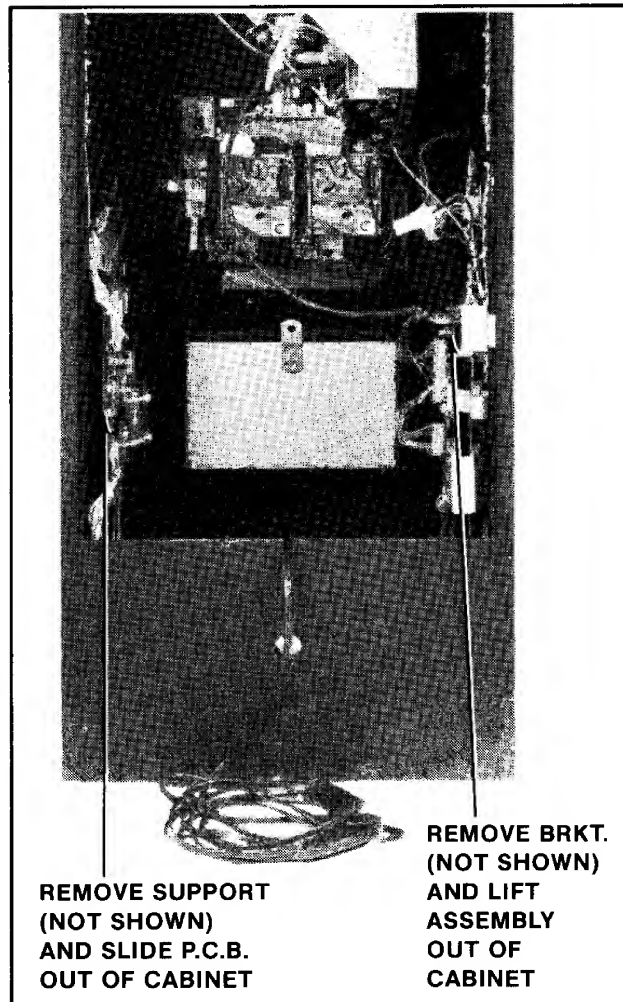

Figure 4-13 Replacing P.C.B.s — Mini
2. MINI MODEL: See Figure 4-13.
- ☐ Disconnect the power supply board from all its cabling, remove the P.C.B. supports indicated in Figure 4-13, and slide it out the back of the cabinet.